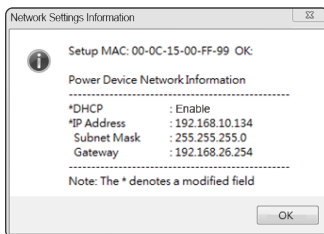

Figure 4. Setup IP Address successfully message
8. If the IP address change is successful, you will see a message confirming the IP set up, as shown in Figure 4.